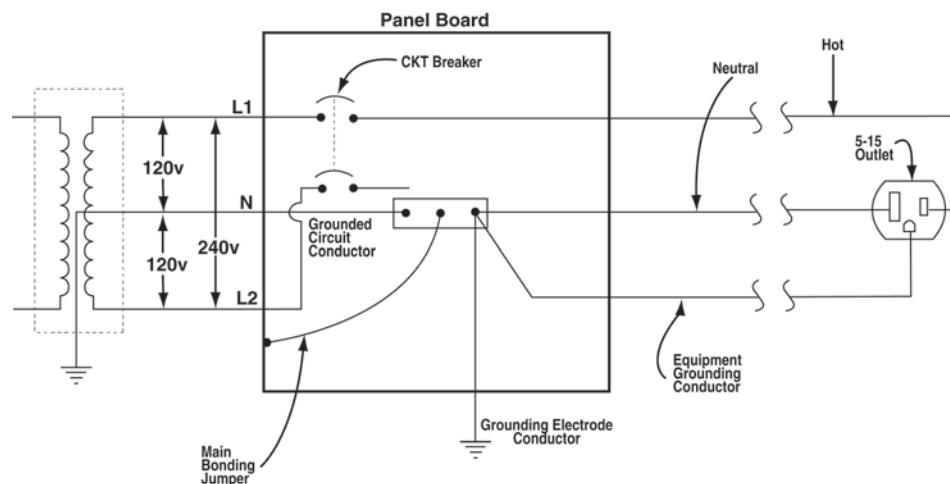

fig. 3. Outlet Configuration
- Hot: The hot conductor delivers energy to the load (telephone system) through the smaller vertical slot, see Fig 3. It connects to a fuse or breaker at the service panel.